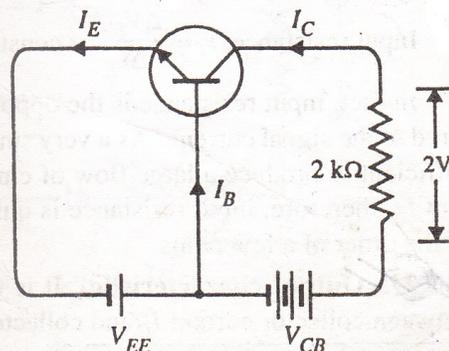

Fig. 10.12
**Solution.** Fig. 10.12 shows the required common base connection. The voltage drop across  $R_C (= 2\text{ k}\Omega)$  is  $2\text{V}$ .